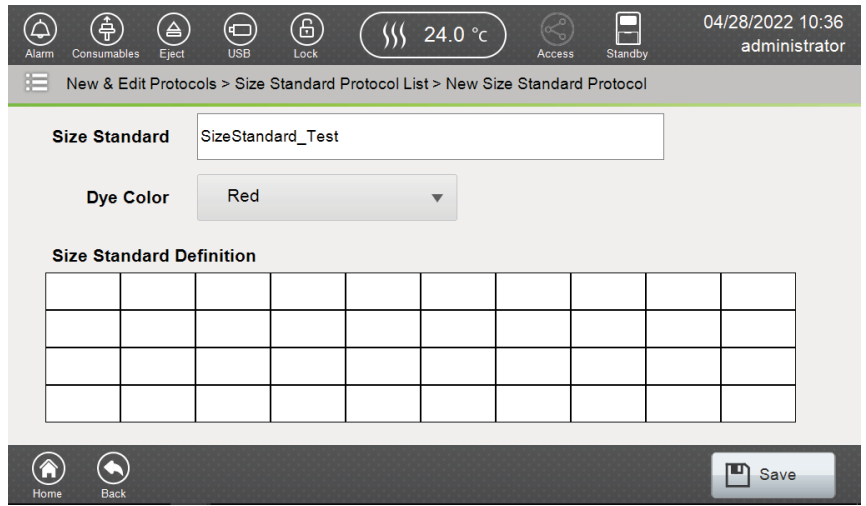

Figure 137. 'New Size Standard Protocol' screen.
4. Select the grid area of the 'Size Standard Definition' table (Figure 137).